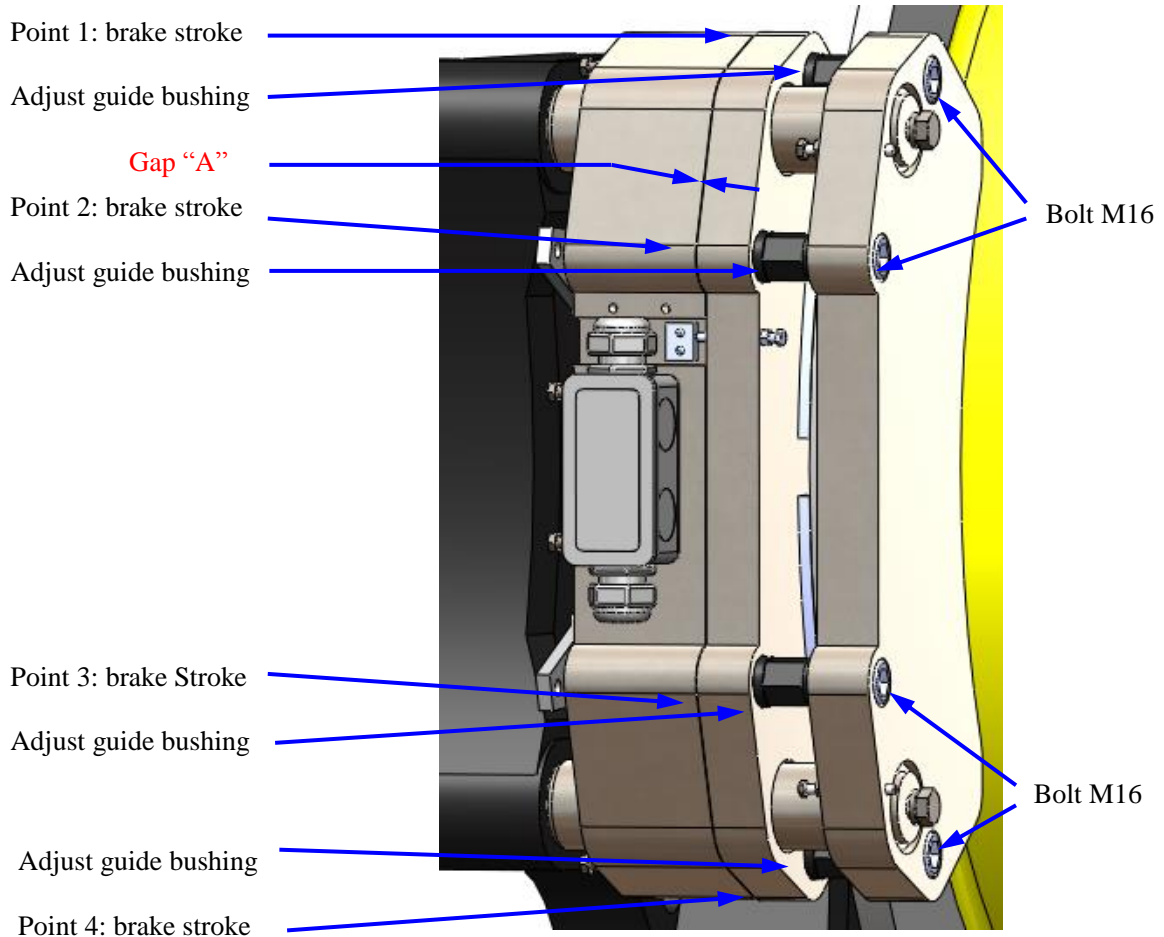

Figure 9: Brake Stroke Adjustment for PZD360
5. Torque the screw M16 to 110 ft-lbs and reconfirm that the value of gap "A" is OK. See Figure 9.